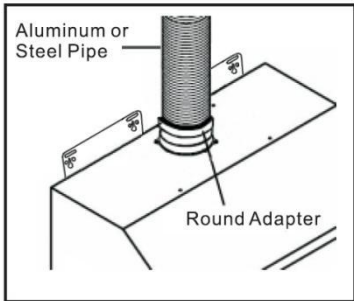

Fig. 2c
- i. Install the exhaust piping and connect it to the outlet of the unit. **(Fig. 2c)**